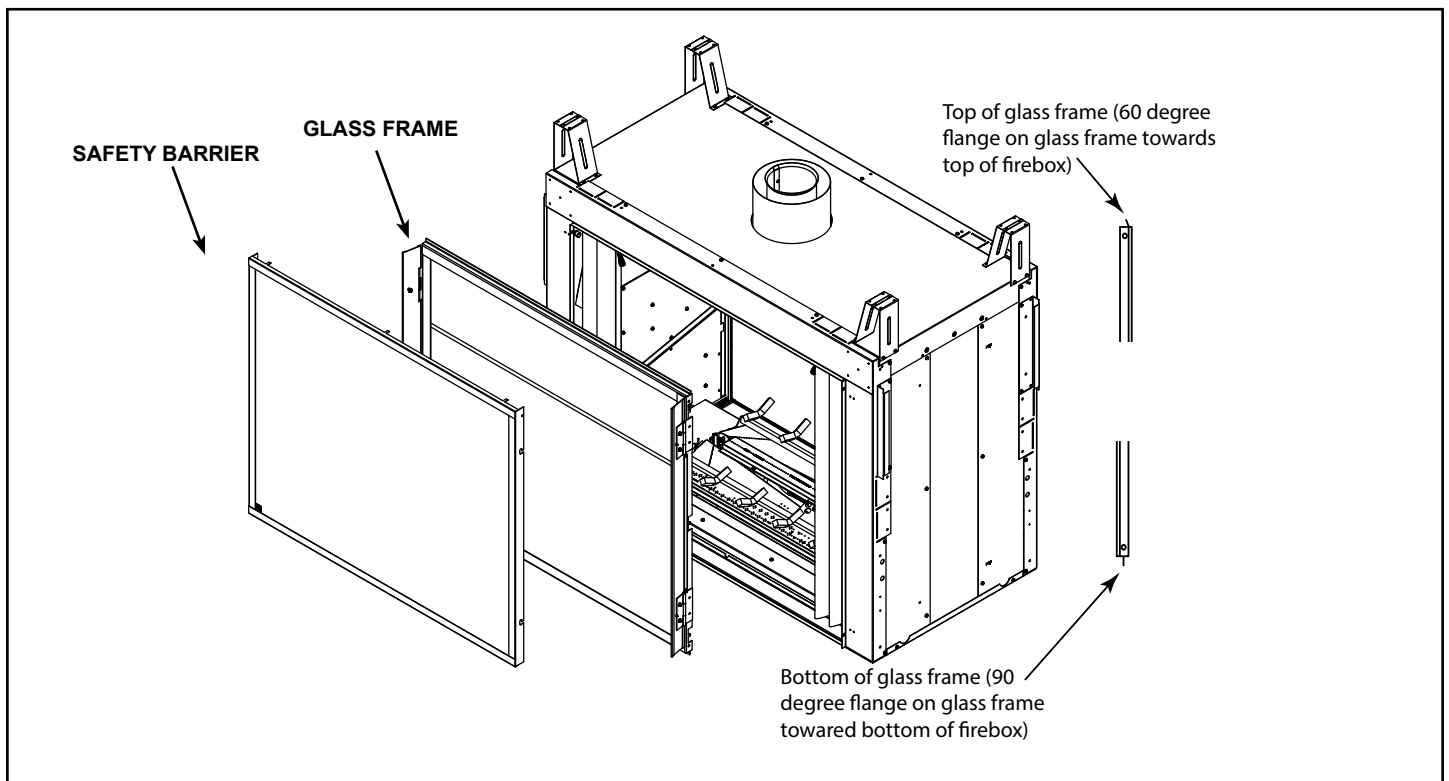

Figure 10.5 Remove Safety Barrier and Glass Frame
3. Remove glass frame by releasing the three latches located at the top of the firebox. Tilt glass away from the unit, lift glass frame up and away from the unit. See Figure 10.5.